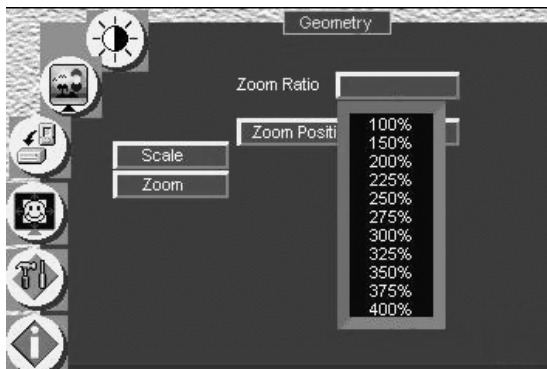

Figure 27: Geometry (Zoom Ratio) Screen
- Using the OSD Menu buttons, as Figure 27 illustrates